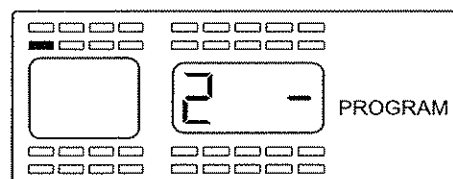
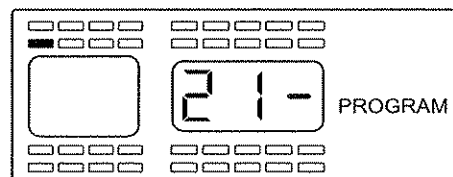

Figure 2-5
Figure 2-6
6. The center dash (-) of this digit will now blink (see **Figure 2-5**). Use the up and down button to change this digit to the number needed for the second digit of the sensor. When you have selected the correct number for the center section of this number press the right arrow button so the remaining dash (-) begins to flash of the three-digit number (see **Figure 2-6**).